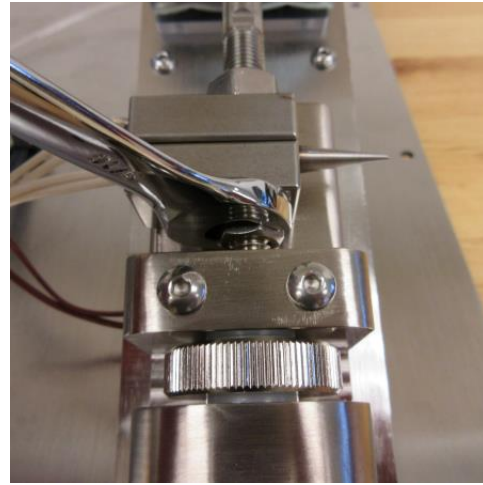

Figure 3.4.5
- Using a 9/16 open end wrench break the lower jaw nut loose by turning it clockwise. **Figure 3.4.5**